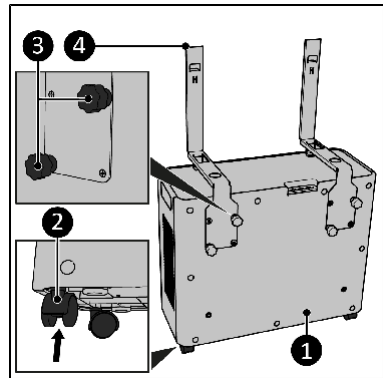

Figure 9
1. Insert the castors (Fig. 9, Ref. 2) into the designated openings underneath the outdoor unit (Fig. 9, Ref. 1) until they click into place.
2. Install the indoor mounting brackets (Fig. 9, Ref. 4) on the outdoor unit (Fig. 9, Ref. 1) and secure each bracket using two cap nuts (Fig. 9, Ref. 3).